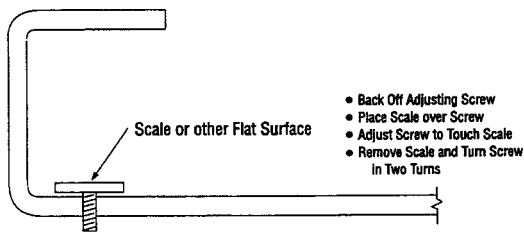

Figure 8-2. Flush Screw with Flat Surface
- Loosen the locknut and back the screw out. Then adjust the screw back in so the tip is flush with the inner door surface. Using a flat surface, as shown on Figure 8-2 is beneficial in adjusting the screw flush. Once screws are flush, turn clockwise two additional turns and
- Loosen the locknut and back the screw out. Then adjust the screw back in so the tip is flush with the inner door surface. Using a flat surface, as shown on Figure 8-2, is beneficial in adjusting the screw flush. Once screws are flush, turn clockwise two additional turns and tighten lockwasher.